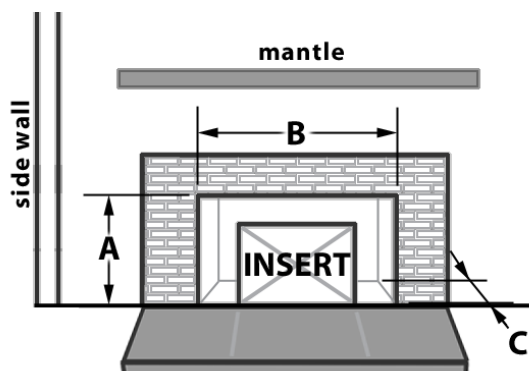
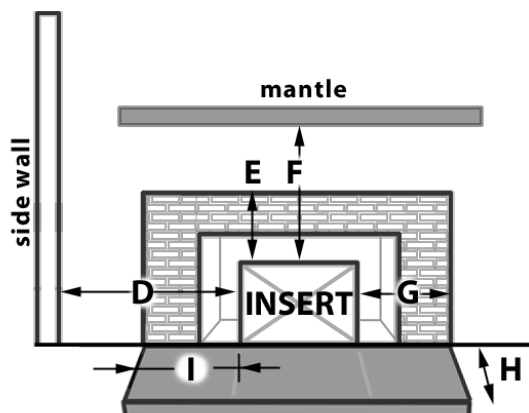

Figure 1 Minimum Opening Specifications
Figure 2 Minimum Clearance to Combustible Materials
5. **WARNING: RISK OF FIRE.** Observe the minimum clearances to combustibles (see figures 1–3). Do not place furniture, rugs, carpet or other objects within the clearance area.
6. **WARNING: RISK OF FIRE. DO NOT** store wood, flammable liquids or other combustible materials within minimum clearance dimensions. Refer to certification label on unit and reference figures 1 – 3 in this manual.
- 6. Combustible Material Clearances.** The fireplace and chimney must be inspected to make sure there is adequate clearance to combustible materials. This includes the top, side, front and back as well as concealed combustibles in the chimney and mantle areas. Your local building inspector or fire authority should have information on whether older fireplace meet current codes and are suitable for use. See also figure 1 and figure 2.
A solid non-combustible floor, concrete or solid masonry must extend 6" to either side of the body of the insert and 24" in front of the face of the insert. This would require a floor protector 38" wide by 24" deep. (See figures 2 & 3)